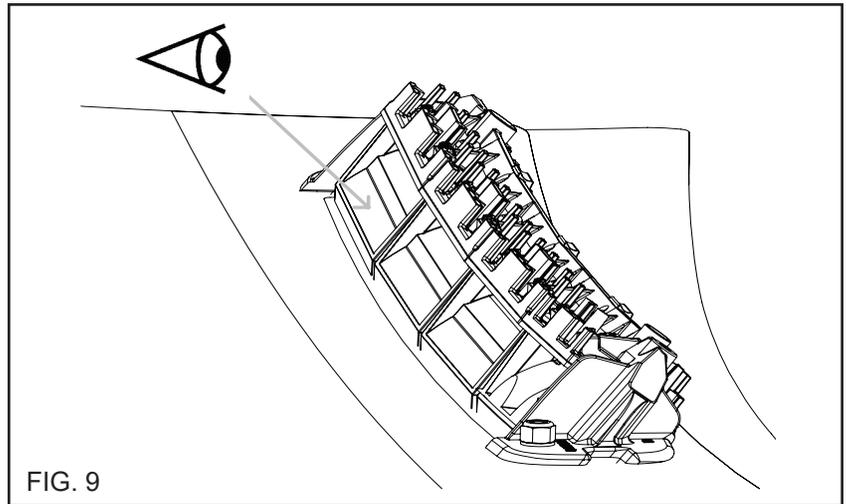

FIG. 9
- STOP! And review lens contact by looking at the assembly as shown in **FIG. 9**.